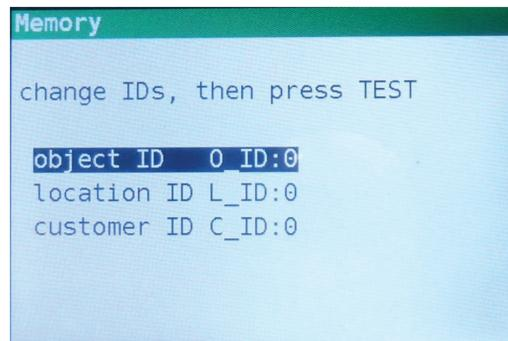

Figure 7.3: ID editor
**Step 3** To change customer ID, location ID or object ID, press the LEFT key. The following screen will be displayed (Figure 7.3).